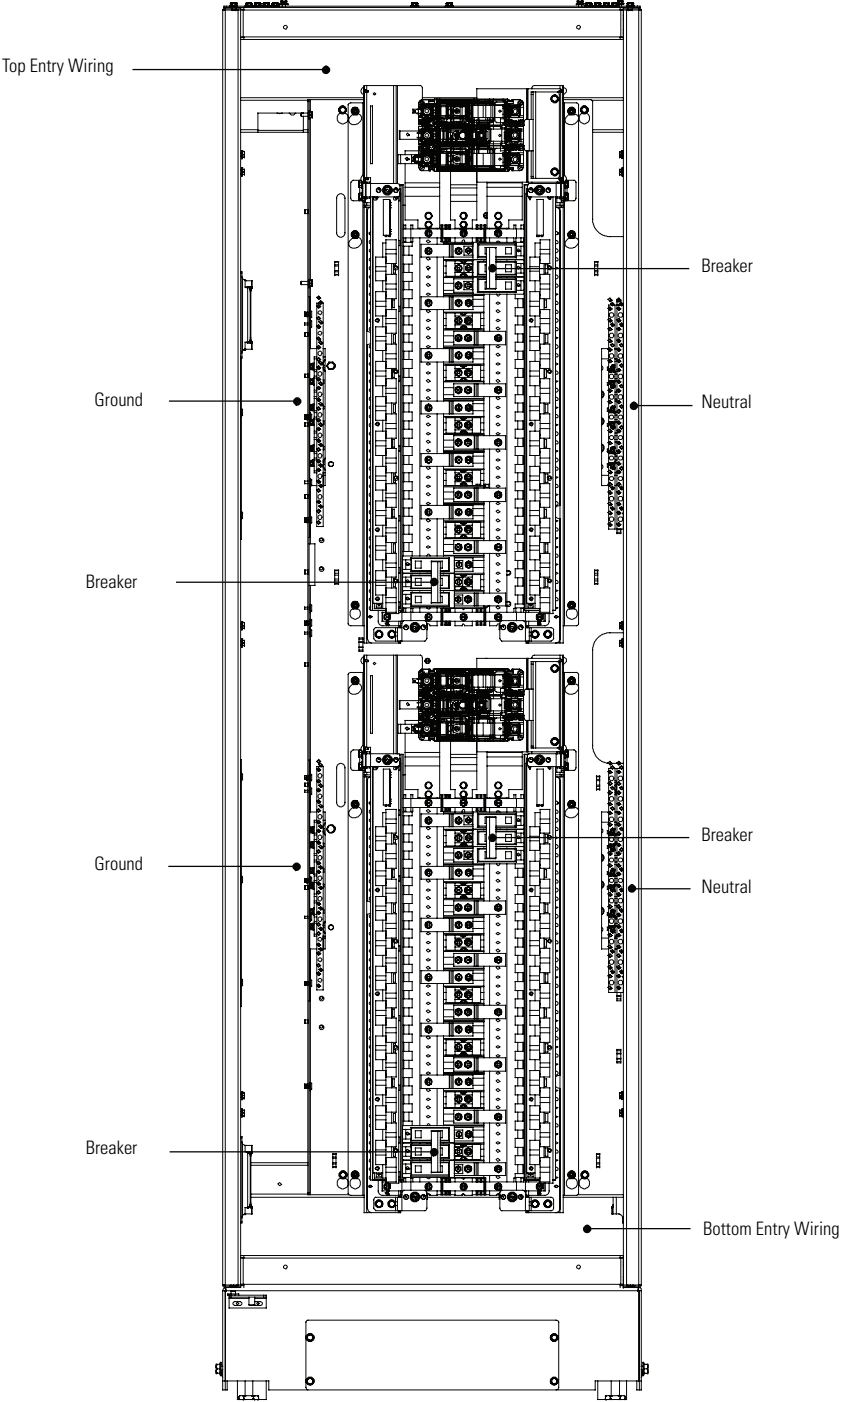
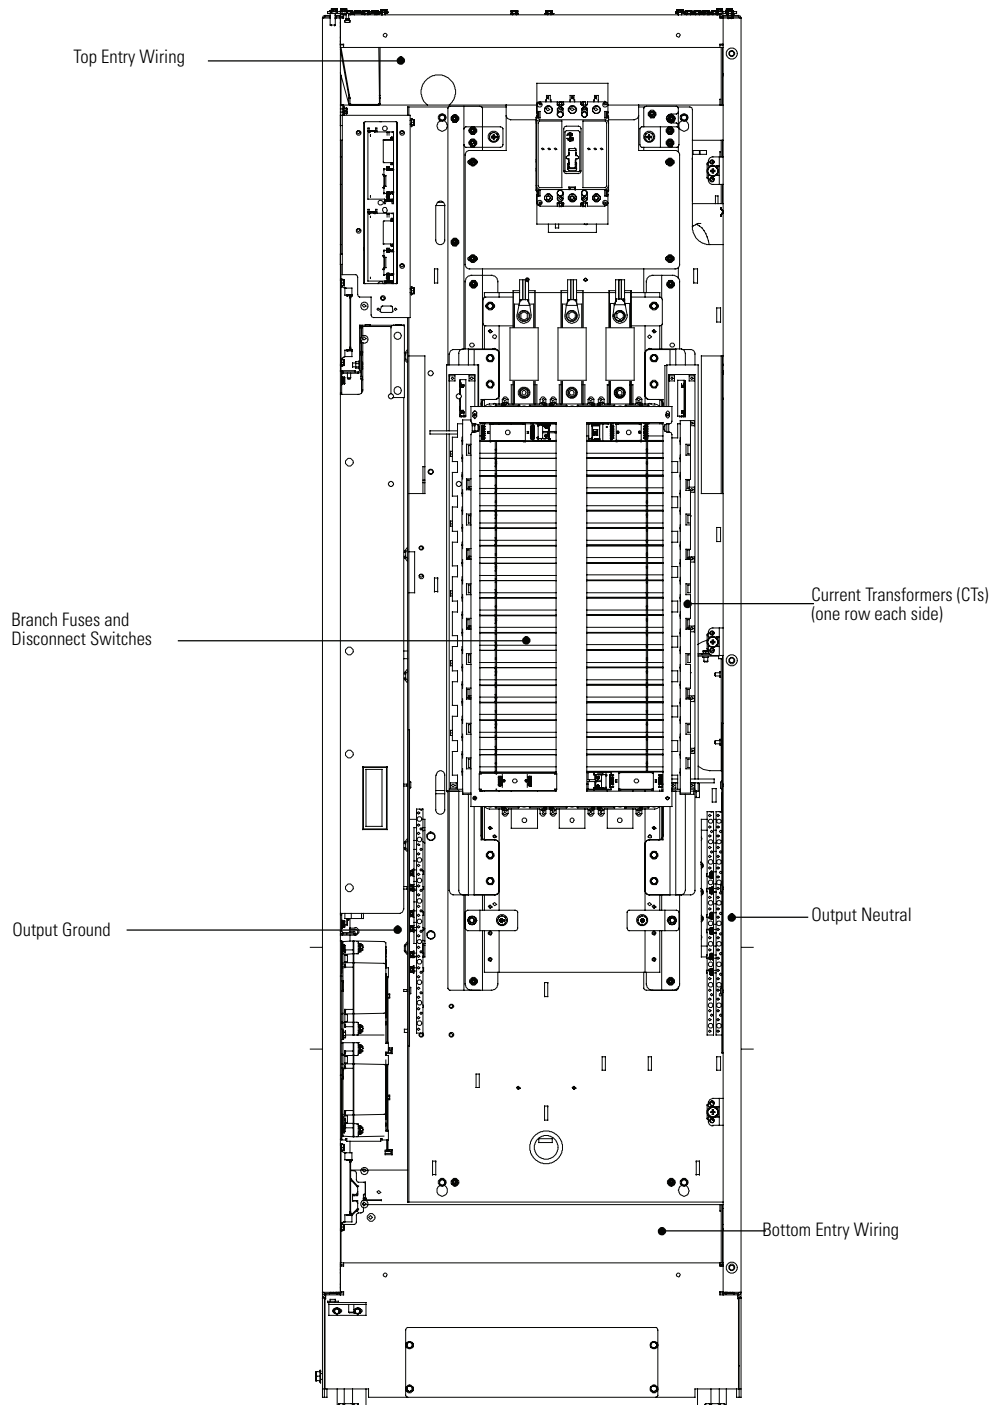

Figure 12. Wiring the Output Connections (each side)
Figure 13. Wiring the Output Connections – Cooper Bussmann Panel (each side)
5. Connect the output power to the 42-pole circuit breaker panelboards according to the branch circuit breaker manufacturer's ratings and instructions, (see Figure 12 or Figure 13, and Table 5). For each pole, install the customer-supplied branch circuit breaker and wire the breaker, ground, and neutral wires. Balance the loads.